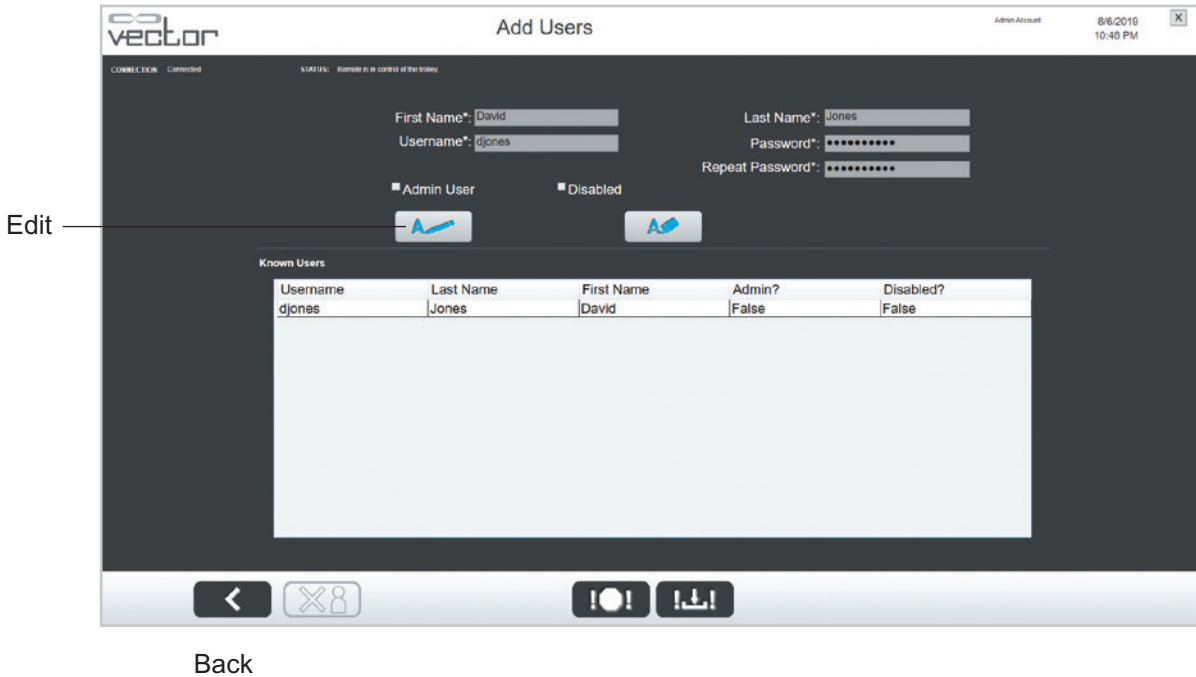

Figure 11-5: Add Users Screen
2. Press the Edit button. See Figure 11-5.